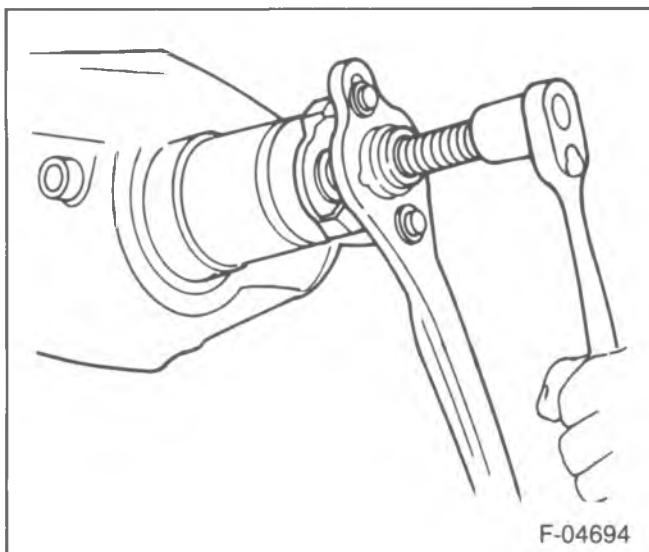
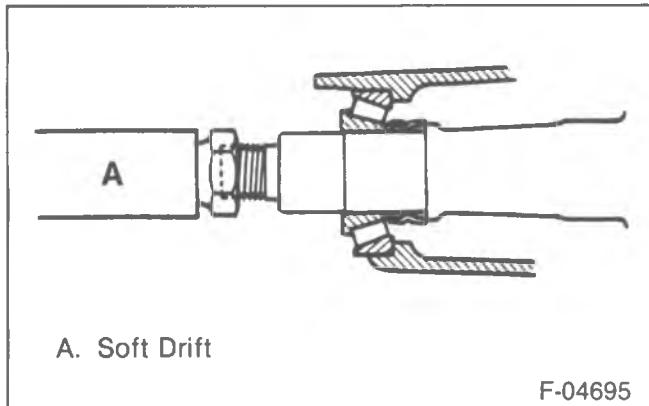

Figure 23—Pinion Flange Removal
Figure 24—Removing the Drive Pinion
15. Pinion flange using J-8614-01 (figure 23).
16. Pinion (7) from the axle housing.
- Replace the differential cover (12) with two bolts (14) to keep the pinion from falling to the floor.
- Drive the pinion out of the housing with a hammer and a soft drift (figure 24).
17. Collapsible spacer (4) from the pinion.
18. Outer pinion seal (38) and bearing (39).
19. Inner bearing (5) and shim (6) from the pinion.